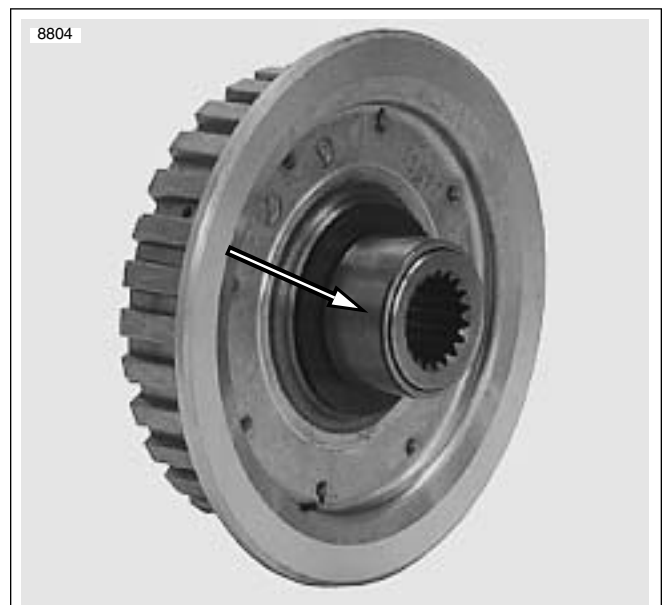

Figure 6-28. Clutch Hub Bearing Race
10. See Figure 6-28. Inspect clutch shell bearing inner race on the back side of the clutch hub for pitting and wear. If the inner race shows any of these signs the complete hub assembly must be replaced.